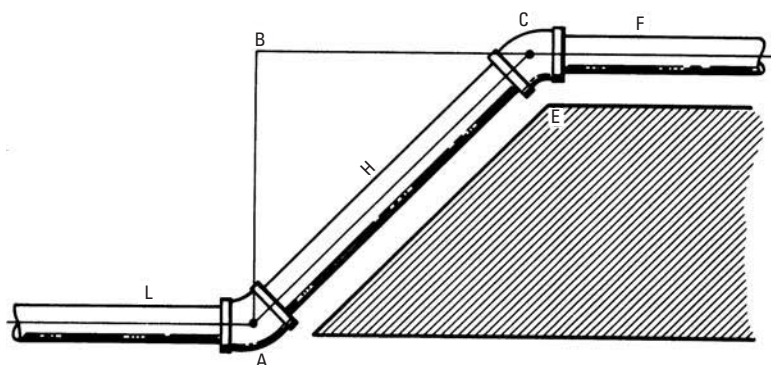

Figure 8-8 Pipeline connected with two 45° elbows illustrating offsets and method of finding length of connecting pipe H.
An example of an offset is illustrated in Figure 8-8. As shown here, the problem is an obstruction (E), such as a wall, blocking the path of a pipeline (L). It is necessary to change the position of pipeline L at point A to some parallel position such as line F in order to move around the obstruction. When two lines such as L and F are to be piped with elbows other than 90° elbows, the pipe fitter is confronted with the following two problems: (1) finding the length of pipe H and (2) determining the distance BC . By determining the distance BC , the pipe fitter will be able to fix point A so that the two elbows A and C will be in alignment.
If, in Figure 8-8, the distance between pipelines L and F is 20 inches (offset AB), what length of pipe H is required to connect with the 45° elbows A and C ?
Figure 8-8 illustrates the difference between the calculated length (that is, the measurement from point A to point C) and the actual length of connecting pipe *H* when used with elbows other than 90°. *Actual length* is obtained by deducting the *allowance for projection of the elbows* from the *calculated length*.